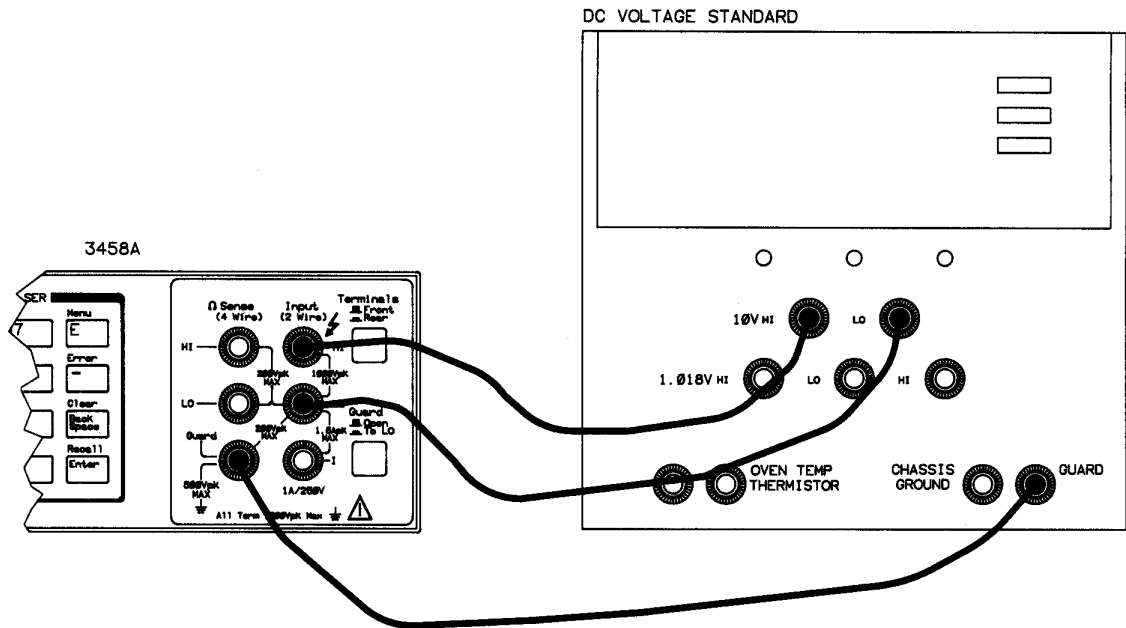
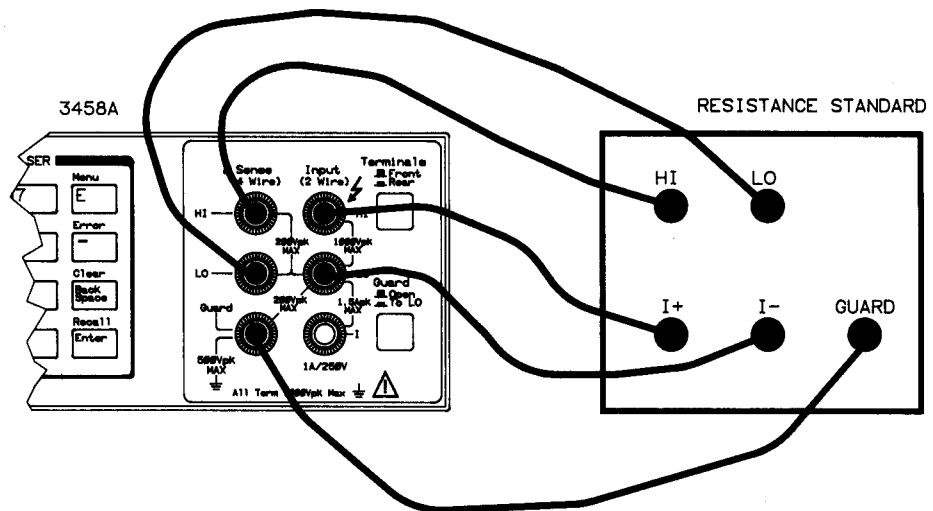

Figure 3-2 DC gain adjustment connections
Figure 3-3 Resistance and DC current adjustment connections
- 3 Connect the voltage standard to the multimeter's front panel HI and LO Input terminals as shown in Figure 3-2. If using a Guard wire (as shown in Figure 3-2), set the Guard switch to the Open position. If not using a Guard wire, set the Guard switch to the To LO position.
- 4 Connect the resistance standard to the multimeter's front panel HI and LO Input and HI and LO Sense terminals as shown in Figure 3-3. If using a Guard wire (as shown in Figure 3-2), set the Guard switch to the Open position. If not using a Guard wire, set the Guard switch to the To LO position.